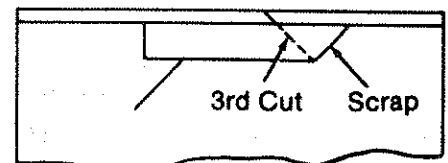

Fig. 172 - Making a 4-Sided Frame
3. Place the same edge of the workpiece against the fence for all cuts. Make the first cut at one end of the workpiece, then flip the workpiece over and make the second cut from the other end. Continue this way until all four cuts are made. (Figure 172)